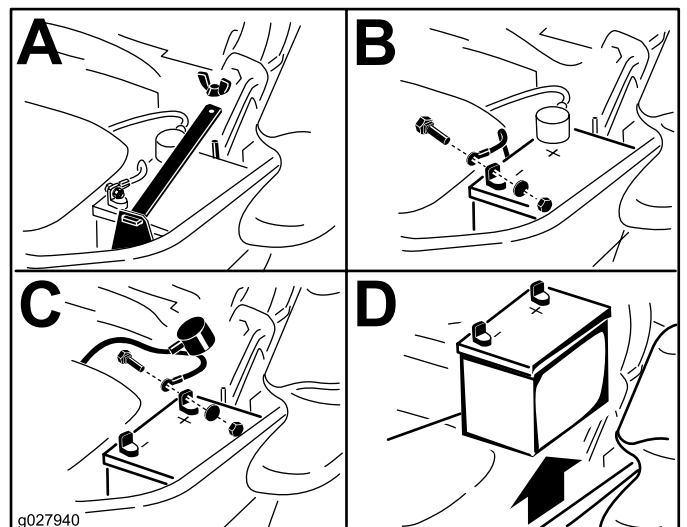

Figure 57
3. Disconnect the negative battery cable (black) from the negative (-) battery terminal (Figure 57).
4. Slide the red terminal boot off the positive (red) battery terminal, and remove the positive (+) battery cable (Figure 57).
5. Remove the wing nut securing the battery clamp (Figure 57).
6. Remove the clamp (Figure 57).
1. Position the battery in the tray with the terminal posts opposite from the hydraulic tank (Figure 57).
4. Secure the cables with 2 bolts, 2 washers, and 2 locknuts (Figure 57).
6. Install the clamp and secure it with the wing nut (Figure 57).